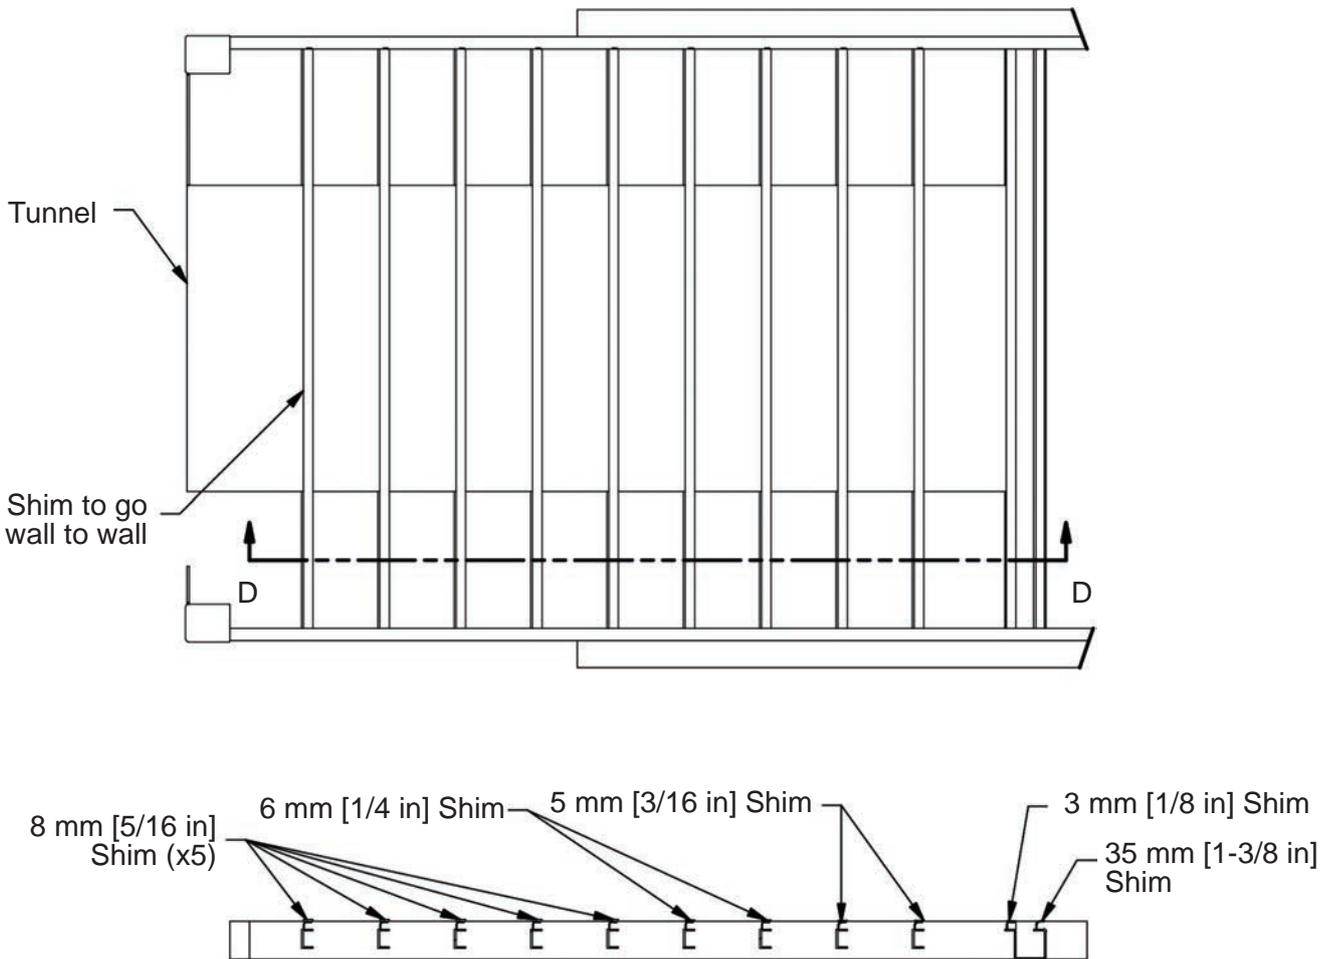

Figure 6
3. The tunnel area needs further shimming. Use 50 mm [2 in] wide flat bar the full width of the container. Starting at the front cross-member, place 8 mm [5/16 in] thick flat bar on the first 5 cross-members. On cross-members #6 and #7, place 6 mm [1/4 in] flat bar. On cross-members #8 and #9, place 5 mm [3/16 in] flat bar. On cross-member #10, place 3 mm [1/8 in] flat bar. Clamp and weld in place. (Figure 6, Section D-D)